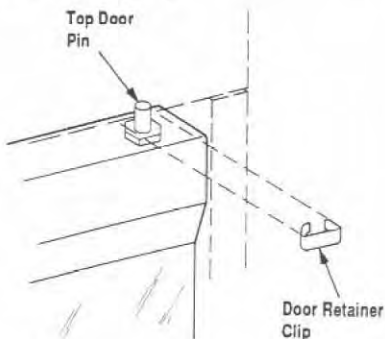

Figure 53
**Step 7.** If needed, snap retainers onto both right and left top door pins to prevent accidental disengagement (Figure 53).